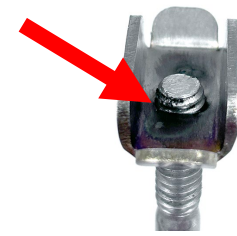

Figure 4
- Tighten the bolt until there is resistance on the bottom threads (see Figure 4).